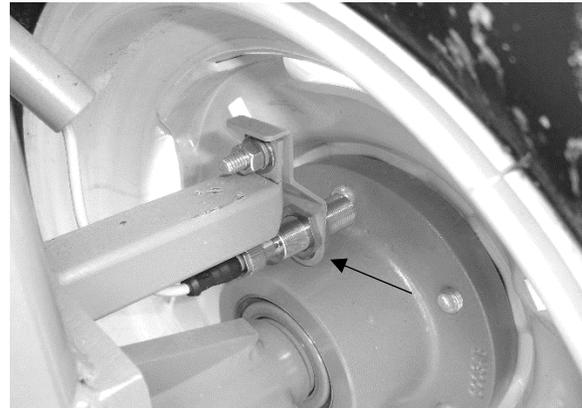
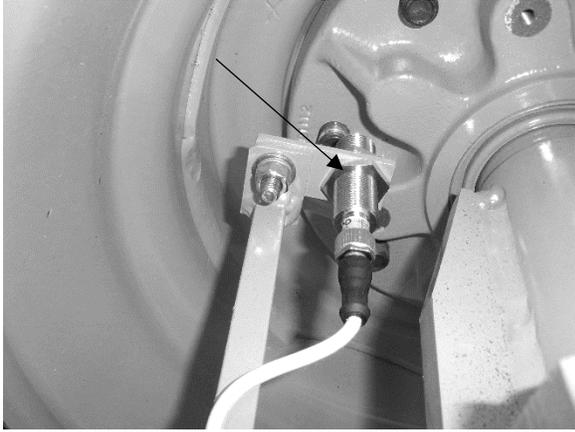

Figure 1—Ground speed sensor on BR models.
Figure 2—Ground speed sensor on SR models.
4. Attach the new mounting bracket to the existing reed switch mounting fixture using the provided fastener. See **Figure 1** (BR models) or **Figure 2** (SR models). Do not tighten the bracket fastener yet.
5. Install the sensor into the bracket. On BR models, carefully adjust the sensor mounting bracket so the tip of the sensor is aligned with the wheel studs protruding through the hub. See **Figure 1**. On SR models adjust the bracket so the tip of the sensor is aligned with the rounded tip of the hub casting as shown in **Figure 2**.
7. Adjust the sensor inward or outward as necessary to obtain 1/8 to 3/16 in. (3.2-4.8 mm) air gap between the tip of the sensor and the wheel studs (BR) or hub casting (SR). Securely tighten the sensor nuts while making sure the air gap remains as specified.